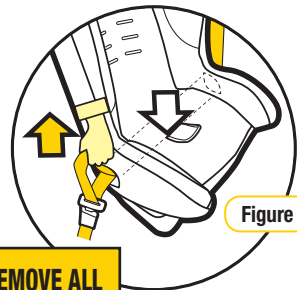

Figure 4
**Step 3:** Push down on the base of the restraint (with knee or hand) whilst pulling the sash section of the vehicle belt firmly up in direction of the yellow arrow in Figure 4. (This will tighten the lap belt across the seat base).